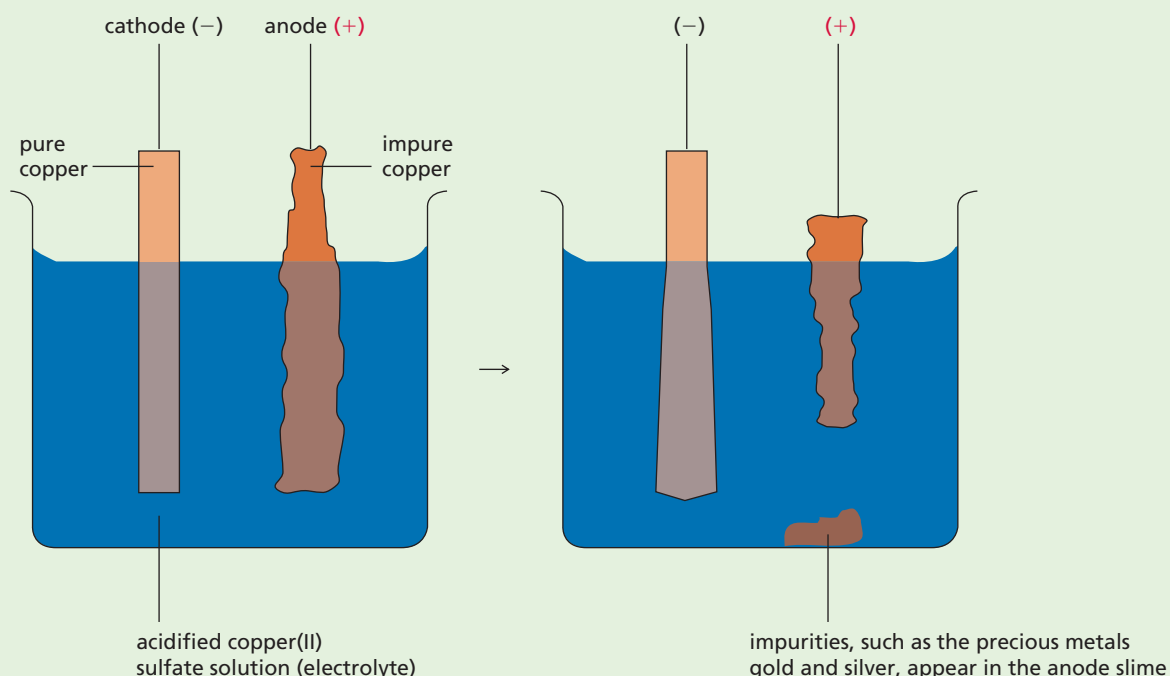

Figure 5.17 Copper purification process.
The impure copper is used as the anode and is typically 1 m square, 35–50 mm thick and 330 kg in weight. The cathode is a 1 mm thick sheet and weighs about 5 kg; it is made from very pure copper. Because copper is itself involved in the electrolytic process, the copper cathode is known as an ‘active’ electrode. The electrolyte is a solution of copper(II) sulfate (0.3 mol dm^{-3}) acidified with a 2 mol dm^{-3} solution of sulfuric acid to help the solution conduct electricity (Figure 5.17).